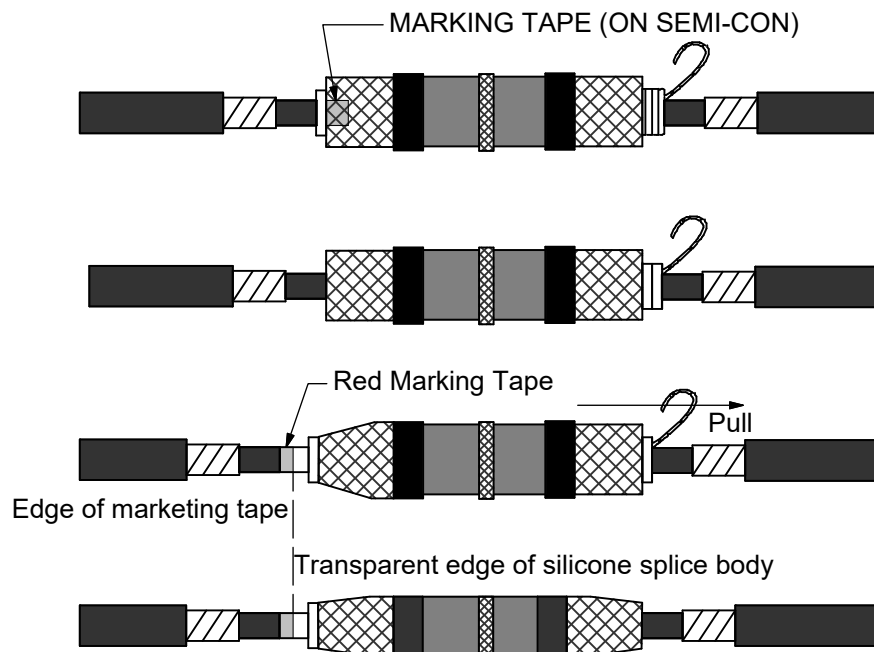

Figure 7
- Remove the spiral holdout (core) by pulling the release strip counterclockwise while holding the splice body in place. The spiral holdout cannot be pulled out all at once. Slowly pull the spiral holdout on top of the cable and then pass it around and underneath the cable until the spiral holdout has been completely removed. Once the splice is partially shrunk adjacent to the marking tape, there is no need to hold the splice. Use two hands at this point to remove the remaining spiral holdout. (See Figure 7.)